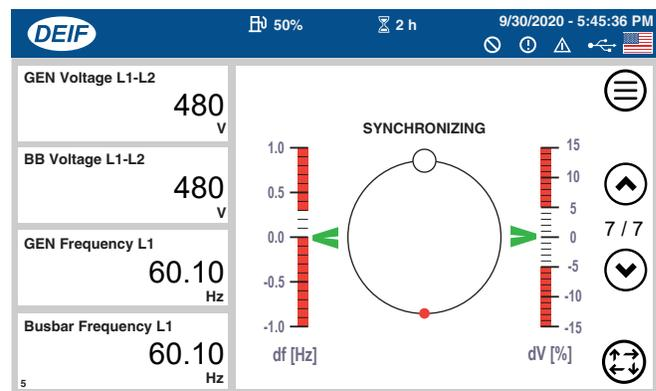

Figure 116. Synchronization Status Screen
- After pressing the **Main Circuit Breaker ON** button on **generator #2**, verify that the **Synchronization Status screen (7 of 7)** is shown on the touch display. See Figure 116.
- Observe as the small red circle (Figure 116) rotates about the axis, indicating that synchronization between the two generators is in progress.